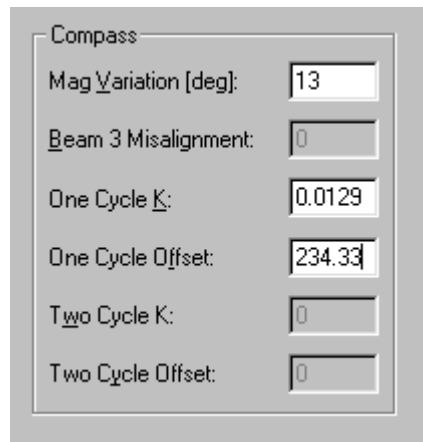

Figure 26. Entering the Compass Corrections
- i. Take the ratio between **Distance MG** and **Length**; this is the magnitude of the one-cycle error (**One Cycle K**). In our example as shown in Figure 26, page 72, you would determine the ratio as $22.79/1754.50 = 0.0129$. The **Course MG** 234.33° is the one-cycle error offset (**One Cycle Offset**).